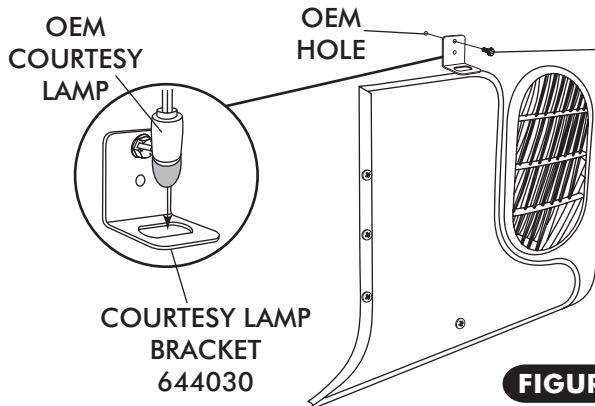

FIGURE 13
- USING OEM HOLE, SECURE DRIVER SIDE COURTESY LAMP BRACKET UNDER DASH USING #10 x 1/2" SHEET METAL SCREW AS SHOWN BELOW IN FIGURE 13.